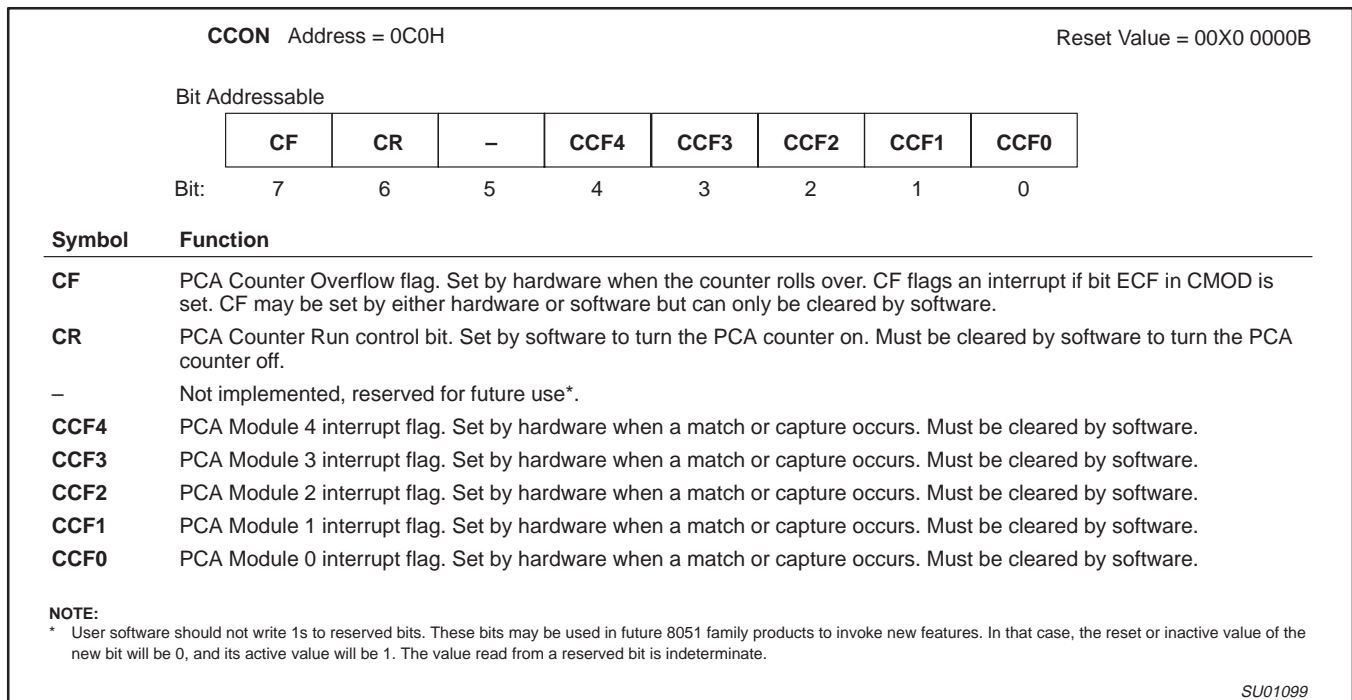

Figure 44. CCON: PCA Counter Control Register
The CCON SFR contains the run control bit for the PCA, and the flags for the PCA timer (CF) and each module (refer to Figure 44). To run the PCA the CR bit (CCON.6) must be set by software. The PCA is shut off by clearing this bit. The CF bit (CCON.7) is set when